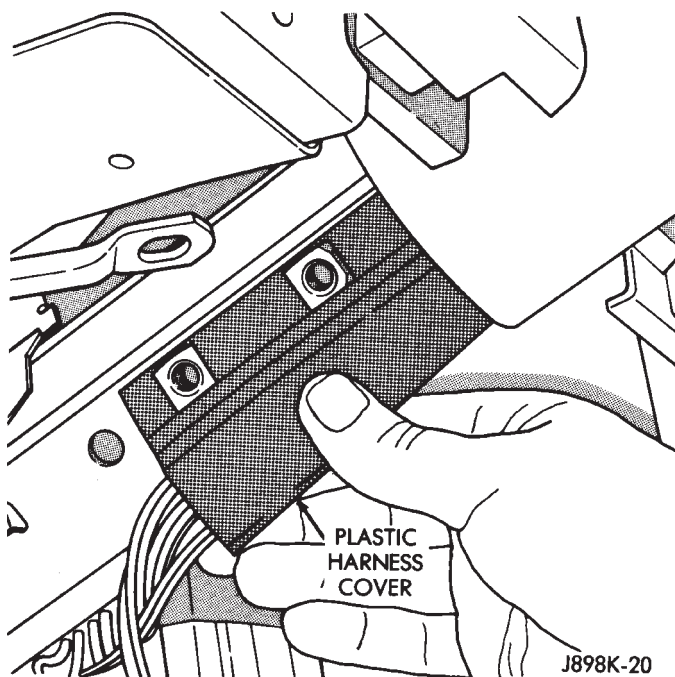

Fig. 9 Remove Plastic Harness Cover
(26) Pry up locking tabs of steering column connector and remove connector from column bracket.
(27) Remove plastic harness cover by pulling it up and over weld nuts then open and slide the cover off harness (Fig. 9).